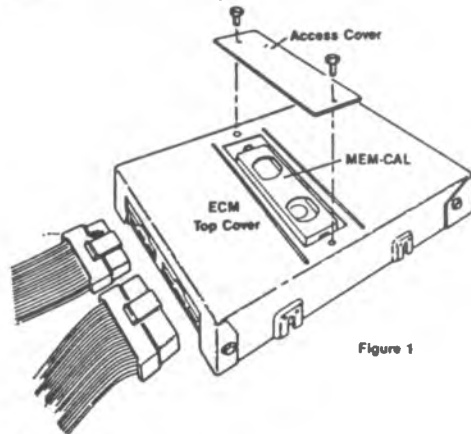

Figure 1
**Remove or Disconnect (Figures 1 and 2)**
**Remove or Disconnect (Figure 1)**
**Install or Connect (Figure 1)**